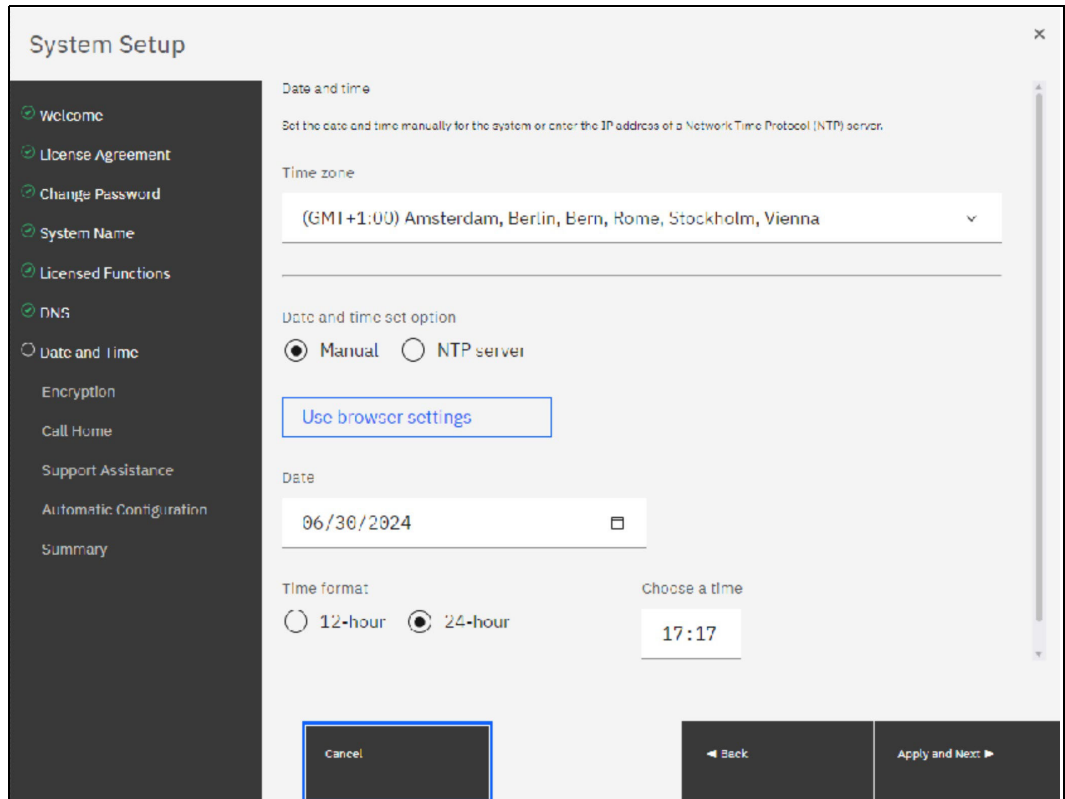

Figure 2-30 Date and Time
18. Following the DNS Setup you are asked to set Date and Time. Enter the date and time settings. In the example that is shown in Figure 2-30 on page 41, the date and time are set by using manually settings. Generally, use an NTP server so that all of your storage area network (SAN) and storage devices have a common timestamp. This practice facilitates troubleshooting and prevents time stamp-related errors.